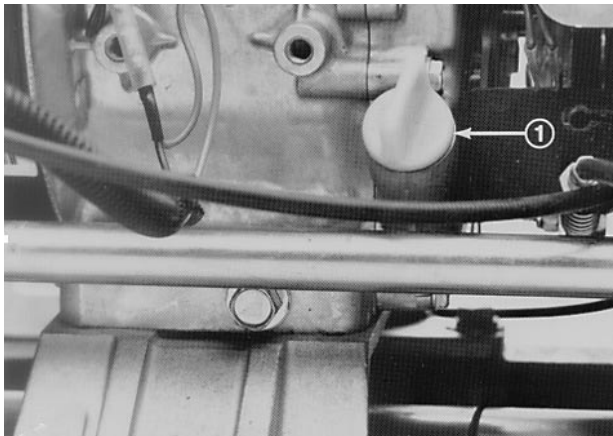

Fig. 1
1. Position the mower so the engine is level and clean around the oil level gauge (Fig. 1).